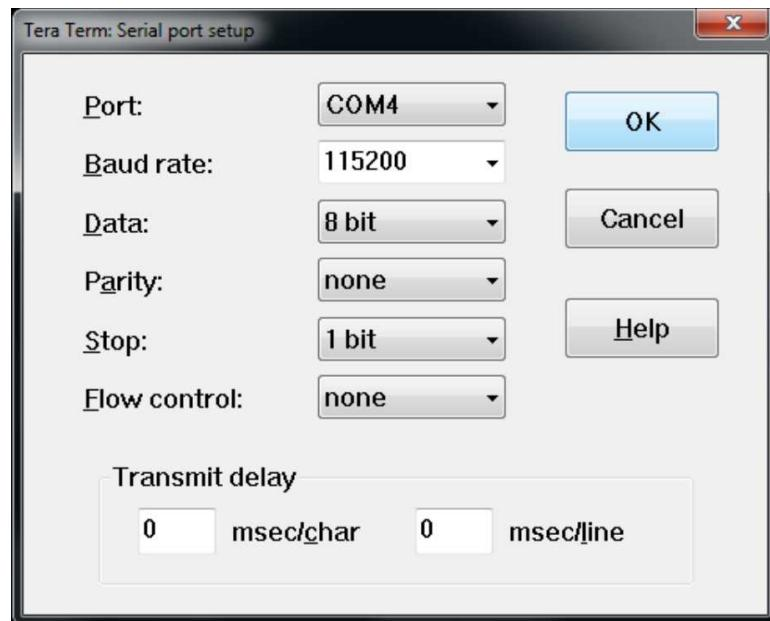

Figure 2-6. Configure Settings
5. Configure the setting as shown in Figure 2-6. Click OK to continue.